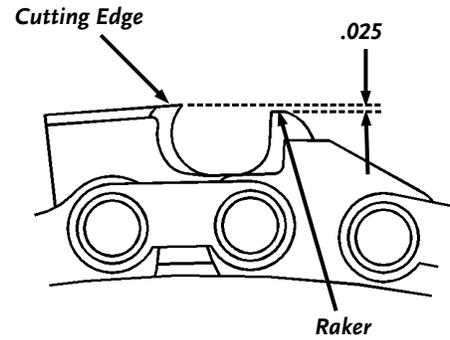

Figure 10
6. Hold the flat file horizontal and file down the rakers to the suggested dimension (**Figure 10**).